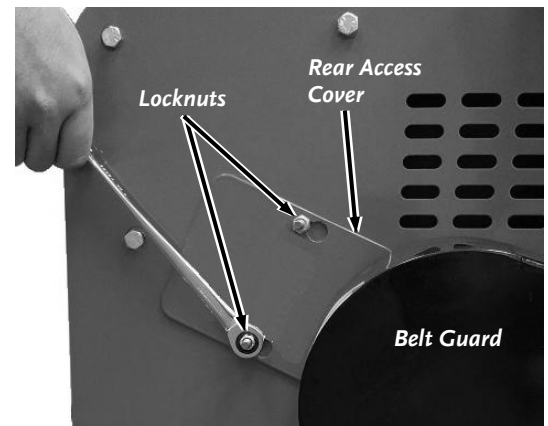

Figure 39
1. Loosen the Locknuts that secure the rear Access Cover (**Figure 39**). Move the Cover over to align the larger portion of the hole with the Locknuts and remove the Cover.